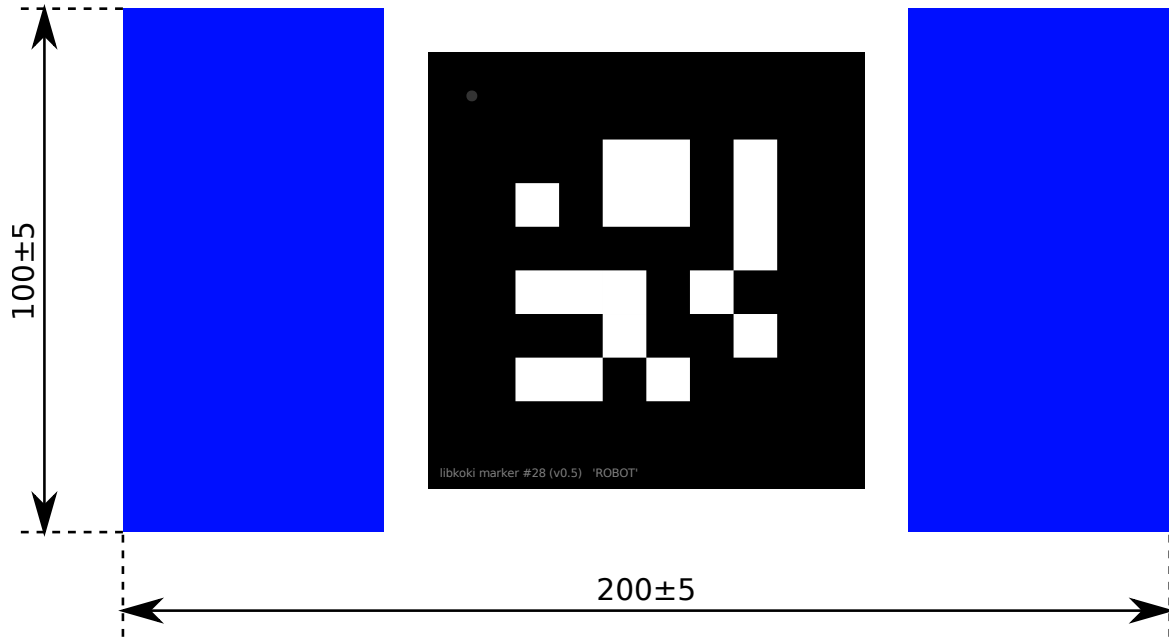

Figure 1: An example robot badge. The blue areas shown are the human-compatible areas. All dimensions are in millimetres.
3.2.3 The four badge mounts must be on the exterior of the robot, parallel with the vertical plane, and should be perpendicular to each other about the vertical axis² The orientation of the badge mounts is unimportant, but teams are encouraged to position them horizontally as shown in figure 1.